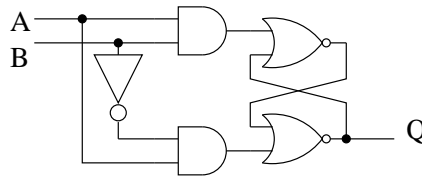

Figure 5.2:
2. **(8 pts.)** Determine the state table for the circuit in Figure 5.2. Which basic memory element does it act like?